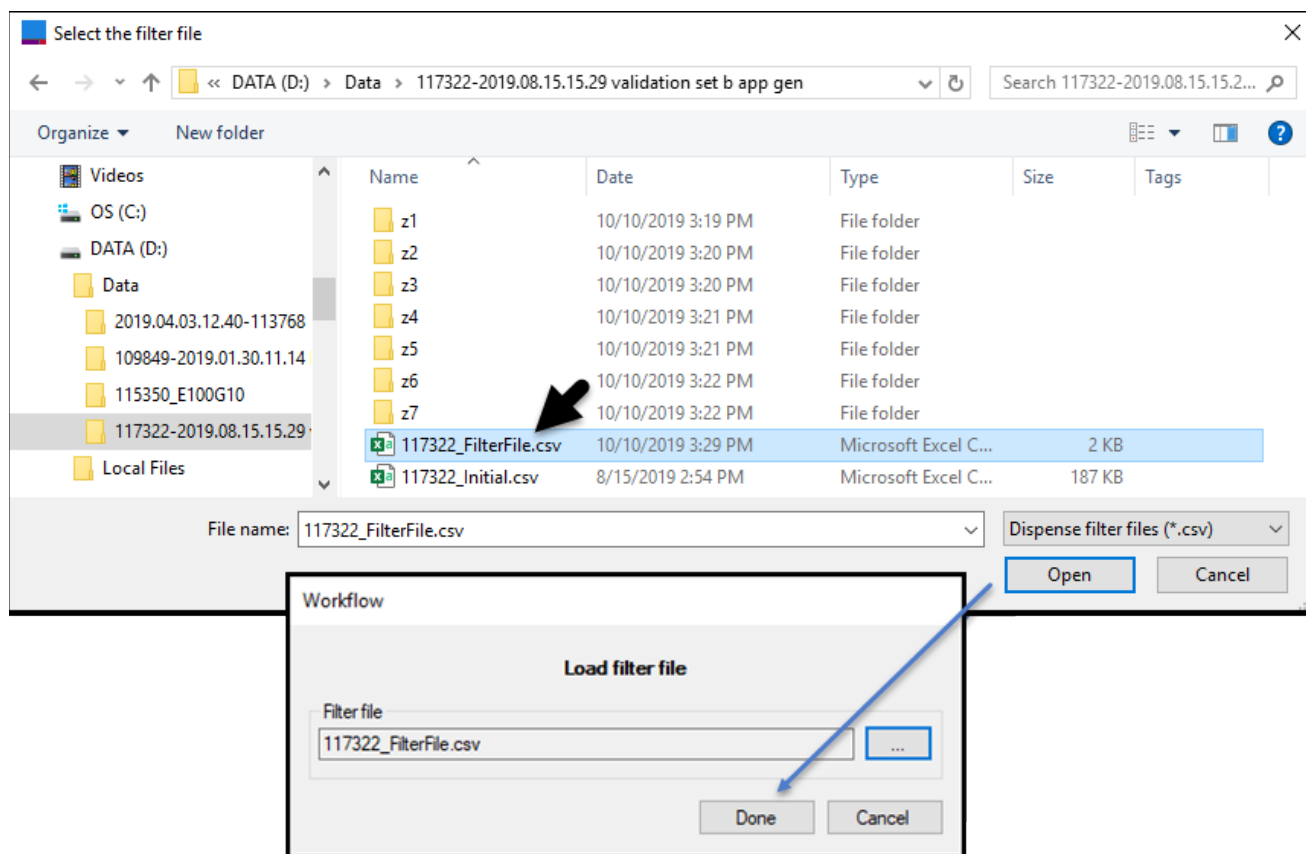

Figure 91. Selecting (top) and loading (bottom image) the filter file.
- b. Select the filter file generated from the cell scan step (previous step, Section X.E) **OR** one created manually (Appendix D) (Figure 91, top).